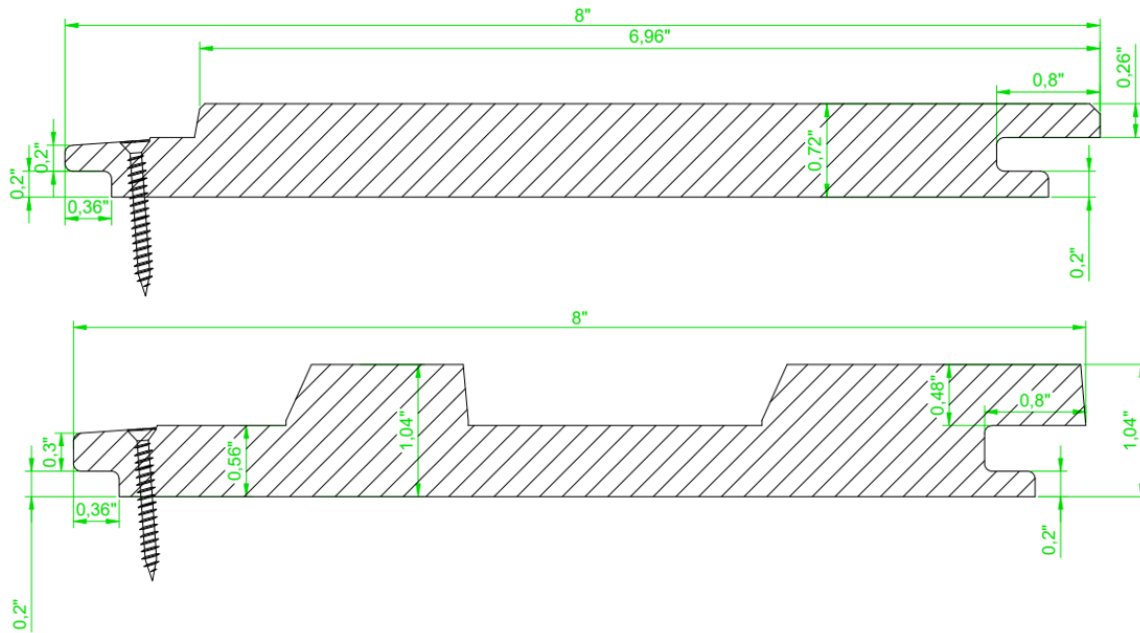

Figure 1. Millboard Composite Siding – Fastening Location (Screw Shown)
- 1.2 Fasteners shall be installed along the tongue of Millboard Composite Siding products. See **Figure 1** for an example.